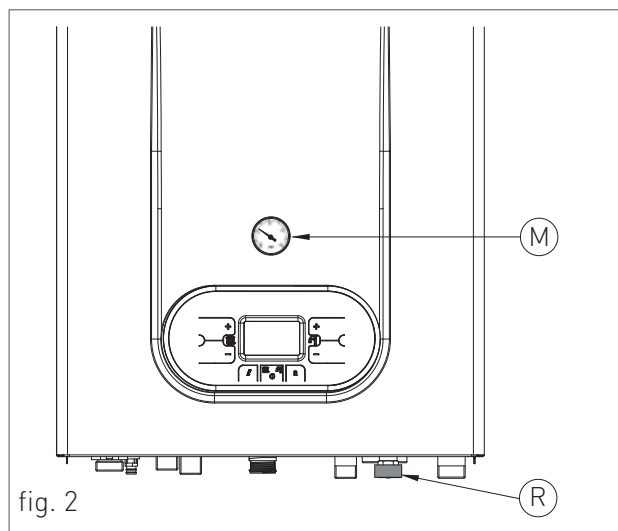

fig. 2
4. open the feeding tap "R" (fig. 2);
6. use pressure gauge "M" (fig. 2) to make sure that the system pressure reaches 1.2 bar (fig. 4);
7. after performing this operation, make sure that the loading tap "R" (fig. 2) is properly closed.